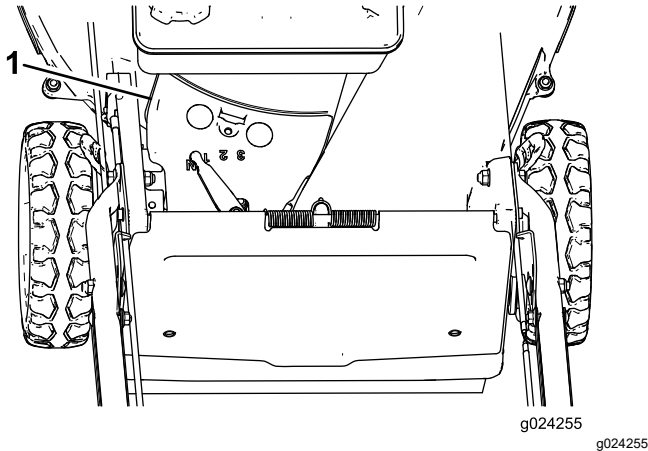

Figure 29
3. Remove the belt cover (Figure 29) from the mower housing.